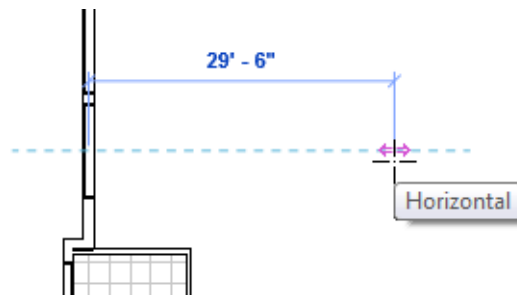

Figure 2–64
2. How do you edit a temporary dimension, such as that shown in Figure 2–64, when you are drawing?